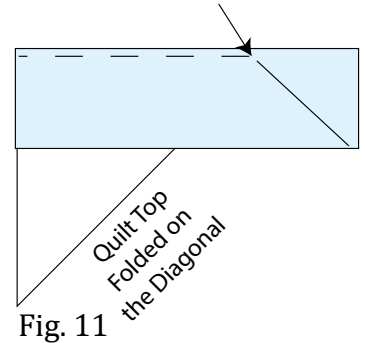

Fig. 11
15. Sew (1) Block Two square to each side of (1) Block Three square to make Row One. Repeat to make Row Three.
16. Sew (1) Block Three square to each side of (1) Block One square to make Row Two.
17. Sew the (3) rows together in numerical order to make the Center Block.
18. Sew (1) $1\frac{3}{4}$ " x $30\frac{1}{2}$ " Fabric G strip to each side of the Center Block. Sew (1) $1\frac{3}{4}$ " x 33" Fabric G strip to the top and to the bottom of the Center Block.
19. Center (1) 5 ½" x 47" Fabric I strip on (1) side of the Center Block and pin in place. Start sewing the strip a ¼" from the top edge of the block and stop a ¼" from the bottom edge. **DO NOT TRIM THE EXCESS.** Repeat with the opposite side.
20. Repeat Step 19 to sew (1) 5 ½" x 47" Fabric I strip to the top and to the bottom of the Center Block, making sure to stop and start ¼" away from each end of the block. To miter each corner, fold the Center Block on a diagonal, wrong side together. This should line up the strips from adjacent sides (Fig. 11).
21. Starting at the sewn seam (represented by the arrow in Figure 11), draw a 45-degree line to the edge of the fabric. Sew on the drawn line. Trim the excess fabric leaving a ¼" seam. Repeat this step with the remaining corners to make the quilt top.